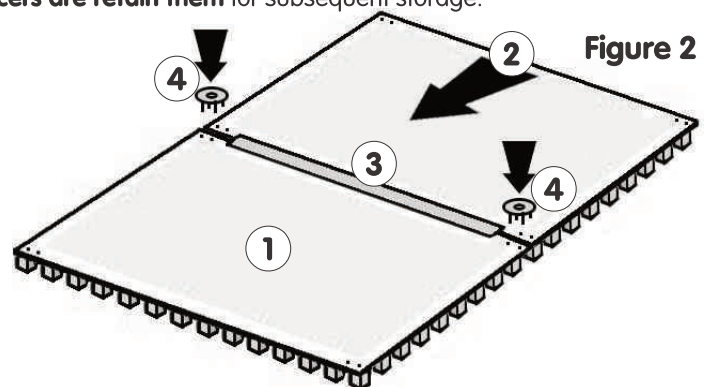

Figure 2
- 3 - Engage a Mid panel (2) centered in the link section (3) (as shown in Fig. 2).
- 4 - Insert then lock a link plate (4) either side of section (3) to join the 2 panels.
- 5 - Repeat the previous steps until second last Mid panel (2), then fit the last end panel (1) aligning the reinforcing blocks towards the end of the track.
- 6 - Set up the 2 or 4 stopper cables which make up the Anti-Rotation Kit, under end panels (1) and Mid panel (2), with NM206 assembly instructions (supplied in package ref.: 6529D).